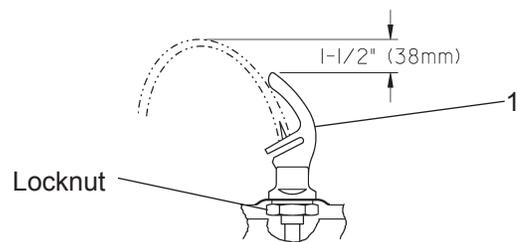

**Figure 4**
7. **Install reset switch** for bottle filler (Fig. 4). Snap the switch into position after locating wires through slot. Wrap up the excess cord.
8. **Install fountain** with (4) 5/16-18 HHMS (provided) (Fig. 4). Connect the 1/4" water line from the fountain to the remaining opening on the tee at the remote chiller (cut line to fit as needed), (Test fit refrigerated panel to make sure there is a tight joint between it & the main panel before fully tightening mounting screws.
- 1) To access the program button, remove the bottom cover on fountain arm (Fig. 4) by removing the bottom cover screws. Reset button is located on mounting bracket.